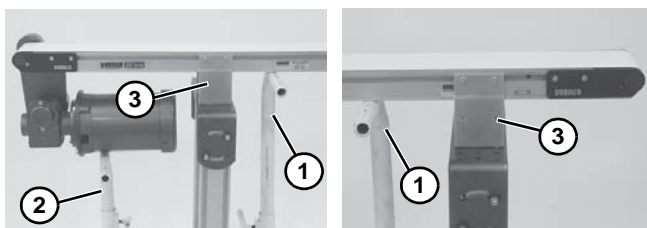
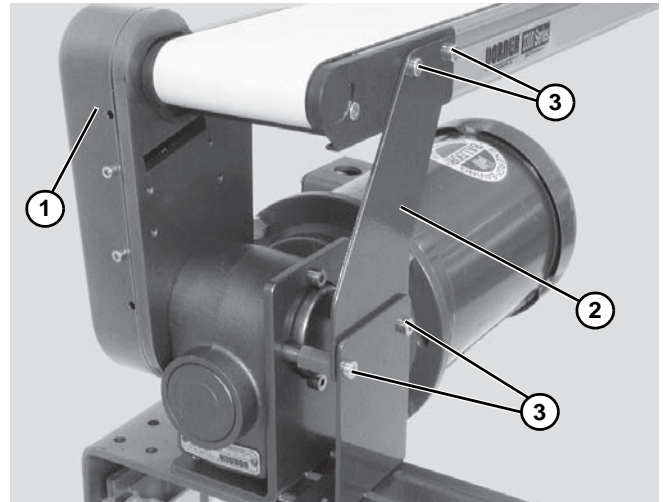

Figure 44
Figure 45
1. Place temporary support stands (**Figure 44, item 1**) at both ends of the conveyor. Place an additional support stand under the drive motor (**Figure 44, item 2**), if equipped. See WARNING.
2. Remove mounting brackets (**Figure 44, item 3**) from one side of conveyor. (Reverse steps 3 & 4 of “2200 Series Mounting Brackets” section beginning on page 9.) If equipped with heavy load drive package, remove brackets from side opposite drive cover (**Figure 45, item 1**).
3. If equipped, remove return rollers, guiding and accessories from side opposite drive cover (**Figure 45, item 1**).
4. If equipped with heavy load drive package, remove drive support bracket (**Figure 45, item 2**): Remove bracket screws (**Figure 45, item 3**) then remove bracket (**Figure 45, item 2**).
1. Ensure temporary support stands (Figure 44, item 1) are placed at both ends of the conveyor. Place an additional support stand under the drive motor (Figure 44, item 2), if equipped. See WARNING.
5. If equipped with a heavy load drive package, re-install drive support bracket (**Figure 45, item 2**).